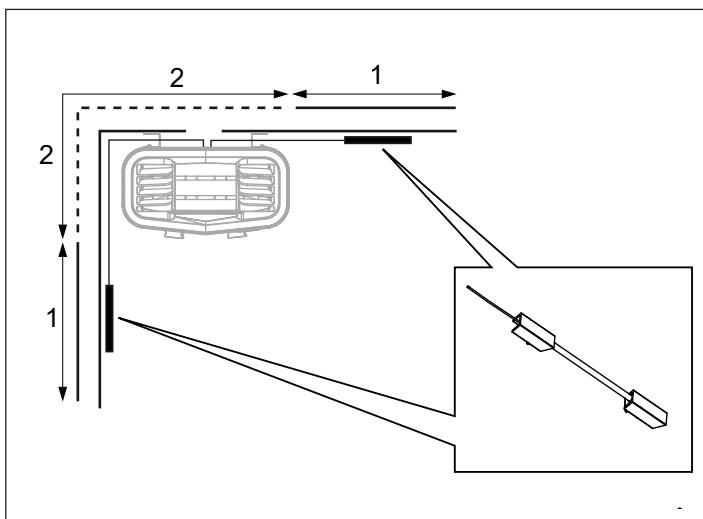

Figure 15: Positioning of temperature sensor
13. For positioning of temperature sensor holder on wall (see Figure 15). Choose position 1 if possible. Position 2 will reduce the sauna temperature.